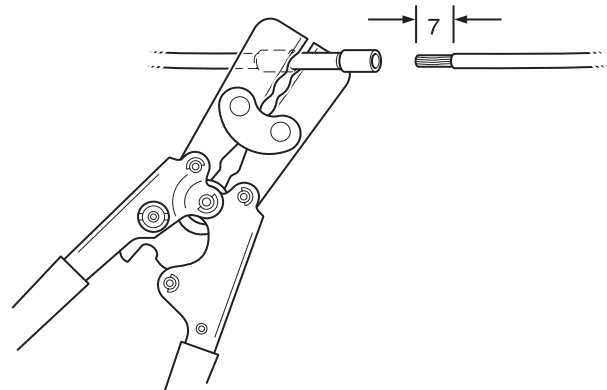

Fig 11.
- 2 Using the correct sized splice, attach the new section of wire required or auxiliary flying lead to the existing harness and secure using the crimp tool. ⇒ Fig 11. \(□ C-174\). Note that each of the splices detailed is colour-coded to make size and range